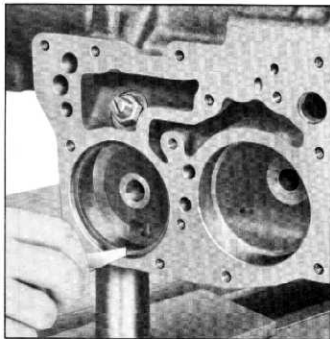

Fig. 110—Checking Servo Piston Ring Gap
5. Remove piston ring from reverse servo piston and low servo piston and install in piston bore. Check ring gap which should be .005"-.010" (fig. 110).